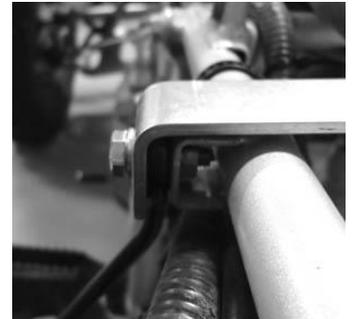

Fig. 1
- 1) Remove rear plastic, intake snorkel, airbox and airbox mounting hardware. Remove bolt that attaches the top of your left heal guard to the frame. Fig. 1
- 4) Securely mount the intake bracket to the left heal guard mounting pad, with the heal guard mount on the inside and the intake bracket on the outside (see Fig. 1). Secure with supplied bolt/washer.